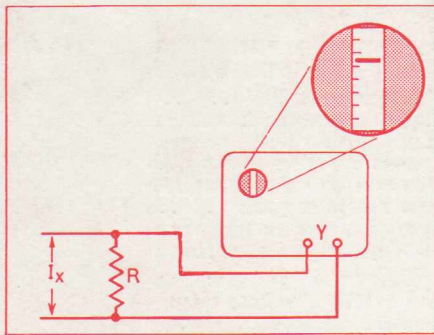

Fig. 7
- (a) Set up a circuit as shown in Fig. 7. The value and power rating of resistor R will depend upon the order of current to be measured.